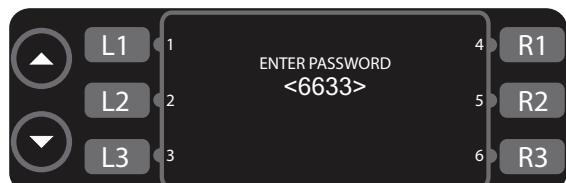

Figure 18: Password Screen
1. Press L3 (Figure 17) to access the password screen (Figure 18).